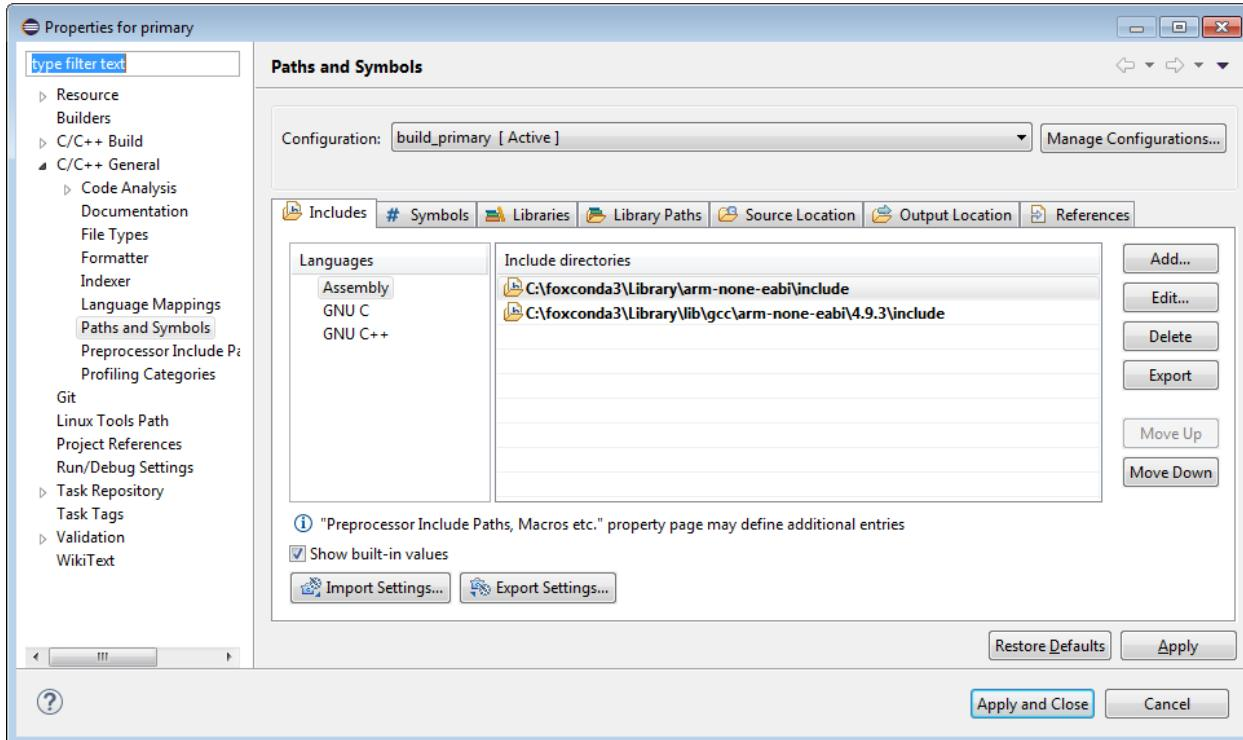

Fig. 11.16: Adding the gcc-includes to a project
1. Select the primary project and click right. Goto C/C++ General -> Paths and Symbols and switch to Tab Includes, as shown in Fig. 11.16.